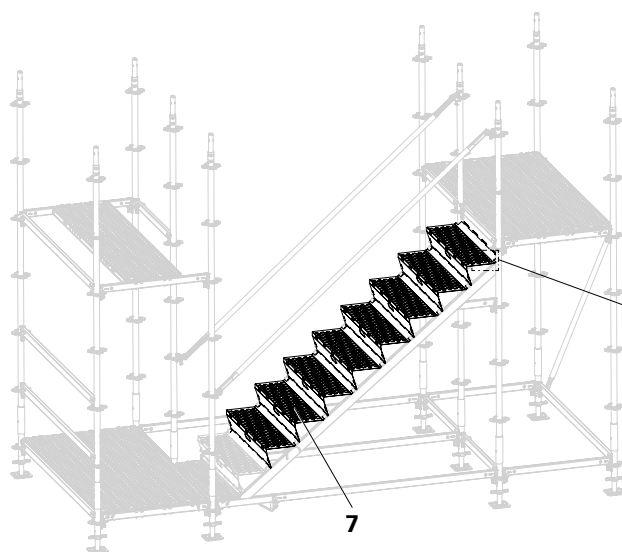

Fig. A2.07
3. Repeat procedure up to the last step. (Fig. A2.07)